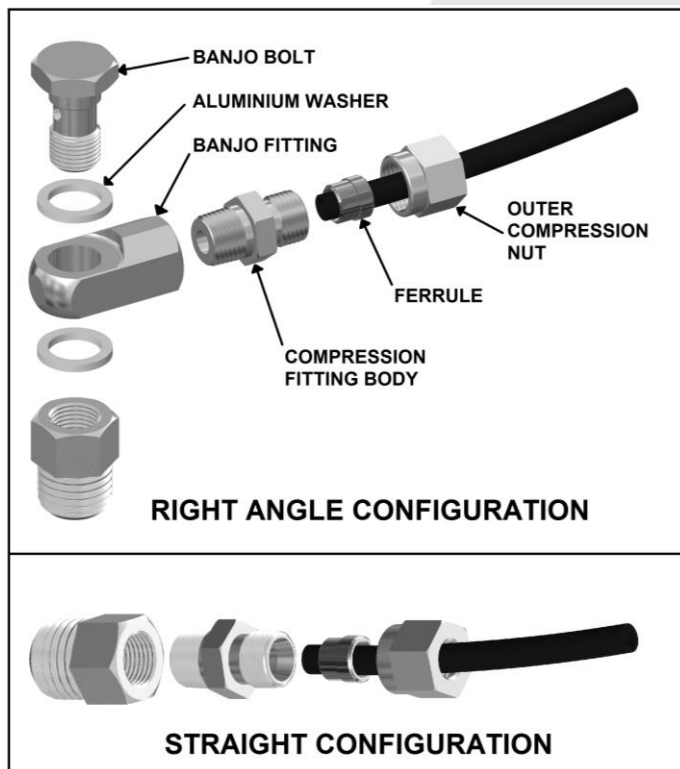

Figure 15.
- Assemble an aluminium washer onto the banjo bolt and insert through the banjo fitting. Assemble second aluminium washer and tighten into bulkhead fitting using a 14mm [9/16"] spanner. (Fig.15.)
- Insert the outer compression nut and ferrule over the air line. Ferrule should be orientated as per Fig.15.
NOTE : When right angle routing of the tube is not required, screw the compression fitting body straight into the bulkhead fitting body (Fig.15.).